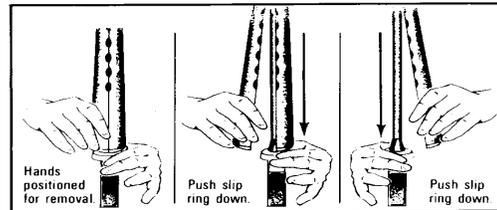

Figure 10-5. Removing the Hand Guards
- c. Remove the hand guards only if you can see dirt or corrosion through the vent holes (figure 10-5). Hand guards on the M16A2 are interchangeable because they are identical.